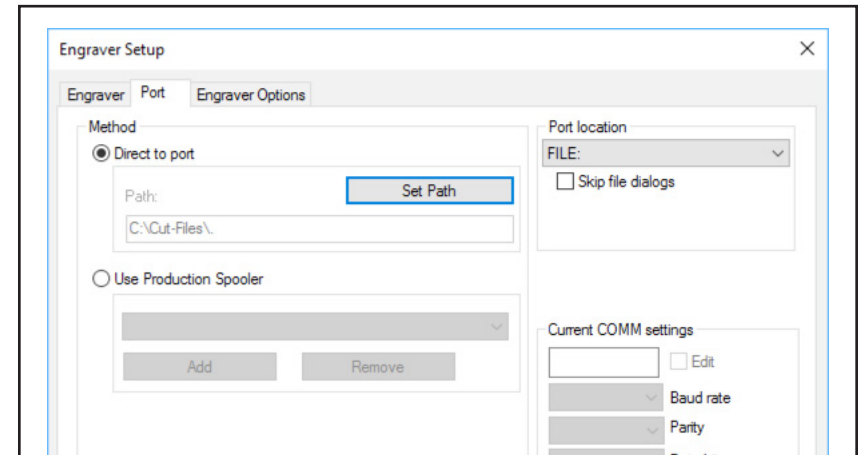

Fig. 17 - When setting the **Port Location**, consider the comments that are provided with the driver. **Engraver** tab >> **Notes** button
24. Set the **Method** = Direct to port (Fig. 17).